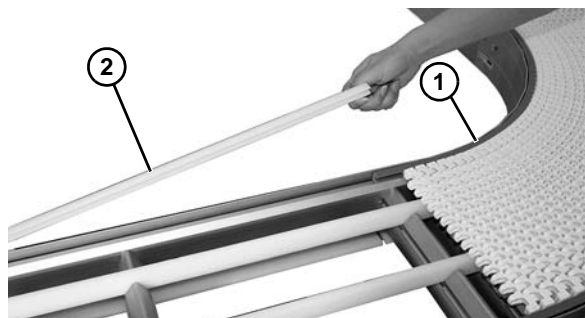

Figure 17
5. On curve conveyors, install belt through wear strip (Figure 17, item 1) and install wear strip (Figure 17, item 2) on straight conveyor sections before installing and connecting belt.